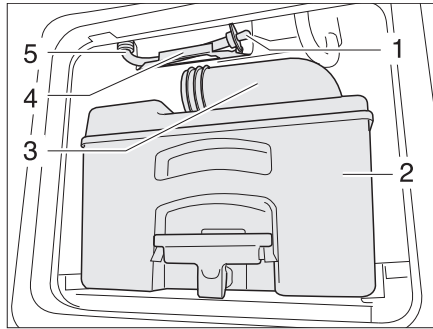

Fig. 358 Toilet water tank drain hose
- Empty the cassette (Fig. 358,2) at a disposal station authorized for this purpose and clean it.
- Leave the drainage neck (Fig. 358,3) open.
- Remove the drain hose (Fig. 358,5) from the holder (Fig. 358,4).
- Remove the drain plug (Fig. 358,1) and let the residual water run out.